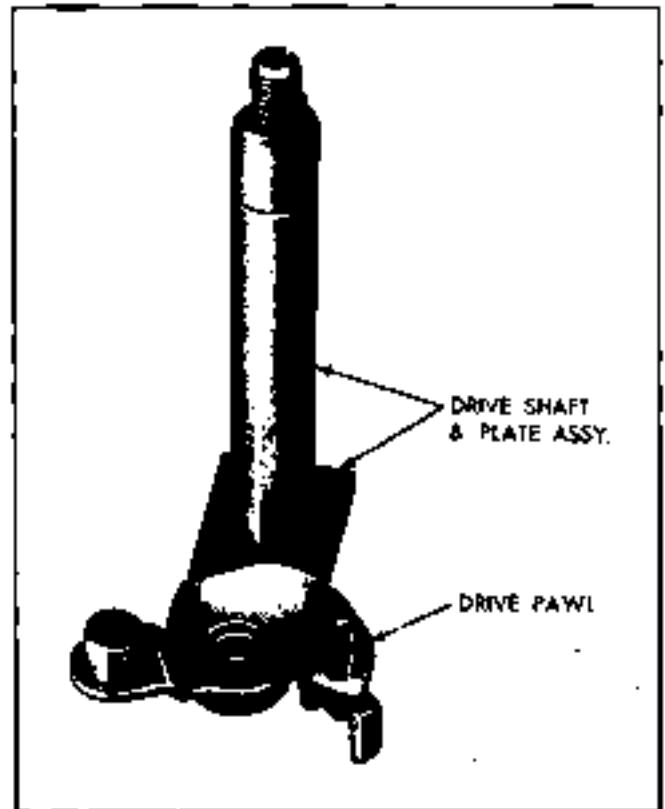

Fig. 12A-10 Assembly of Drive Pawl to Drive Shaft - Depressed Park
6. Slide gear and tube over the drive shaft (Fig. 12A-12). Make drive and lock pawls as required to allow their respective pins to fit in gear guide channel.